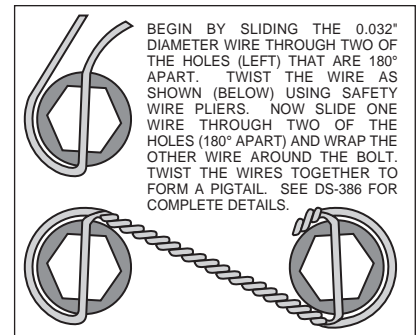

Figure 3. Safety Wire Diagram
- The caliper mount bracket assembly (1) should be installed first with clean, dry threads on the mounting bolts. Install the bracket by sliding bolt (4) through lock washer (2) from the back side through the lower caliper mounting ear on the spindle. Slide bolt (3) through lock washer (2) from a 90° degree angle on the upper portion of the steering arm. The bracket must tighten squarely against the outboard side of the caliper mount bosses on the spindle body. Inspect for interference from casting irregularities, machining ridges, burrs, etc. Later, after the caliper, pad, and rotor alignment has been checked, and any necessary shims have been put in place, the threads of the mounting bolts should be coated with red *Loctite*® 271 and torqued to 65 ft-lbs.
- Install wheel studs (5) into the hub (6). Torque to 77 ft-lb. **NOTE:** There are two (2) five lug patterns in the hub (5 x 4.50 and 5 x 4.75). Make sure of the correct hole pattern for the correct wheel application before installing studs into hub.
- Pack the large inner bearing cone (7) with high temperature disc brake bearing grease (available from your local auto parts store) and install into the backside of the hub (6).
- Install the grease seal (8) by pressing into the backside of the hub (6).
- Pack the small outer bearing cone (14) with high temperature disc brake bearing grease and install into front of hub (6). Slide the hub assembly (5, 6, 7, 8 and 14) onto the spindle. Secure using spindle washer (15), stock adjusting nut and nut locking device. Adjust bearing using a 12" wrench to tighten the adjusting nut while turning the rotor. When the rotor binds slightly, all the bearing parts are seated properly. Back of the nut 1/6 to 1/4 of a turn or enough to allow 0.001 to 0.007 end play. Lock the nut with a new cotter pin. **WARNING:** Failure to back off the adjusting nut may cause the bearing to run hot and be damaged, which could cause the wheel to lock or come off during operation, creating a risk of serious bodily harm.
- Install the o-ring (16) on the dust cap (17), and screw dust cap assembly onto the hub (6). Friction created by the o-ring (16) on the dust cap (17) keeps it from unscrewing.
- With the larger I.D. side of the rotor (9) facing away from the hat (10), bolt rotor (9) to hat(10) through the backside of the rotor using washers (11) and bolts (12). Torque bolts (12) to 85 **in-lb**. Safety wire bolts (12) using standard 0.032 inch diameter stainless steel safety wire as shown in Figure 3. Please refer to Wilwood's data sheet DS-386 (available at www.wilwood.com/pdf/ds386.pdf) for complete safety wire installation instructions.
- Slide the rotor/hat assembly over the studs (5) in the hub (6) taking care to align the small countersunk holes in the hat (10) with the small threaded holes in the hub (6). Install three flat head socket head screws (13) through the small holes in the hat (10) and torque to 85 **in-lb**.